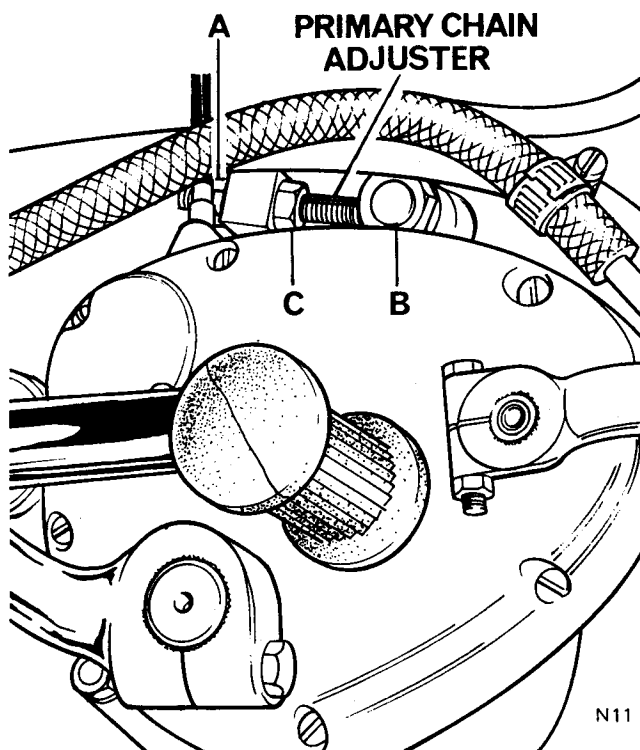

Fig. C51 Primary chain adjustment points
- 1 Check the total up and down movement on the primary chain top run. This is felt by the finger when the upper centre inspection cap is removed from the chaincase. If incorrect, proceed to (2).
- 2 Slacken the gearbox top fixing bolt "B" (see *Fig. C51*). Note that nut on left is captive and must not be turned.